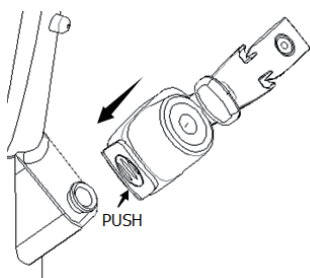

Figure 2
1. Fix the Guidewire Locking Device to the endoscope channel inlet. At the time of installation, press the slide fixture block of the Guidewire Locking Device, and then align the endoscope channel inlet, press the Guidewire Locking Device to the bottom, and then release the slide fixture block. Finally, make sure that the Guidewire Locking Device is securely fixed on the endoscope channel inlet (see Figure 2).